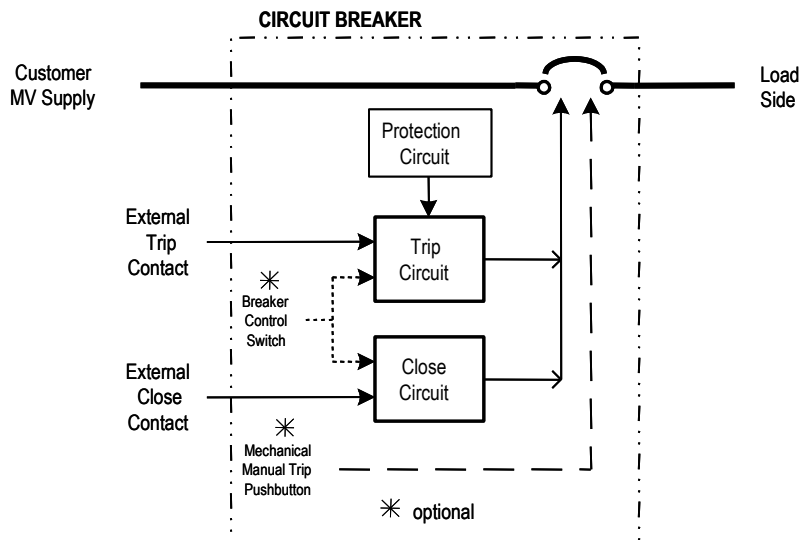
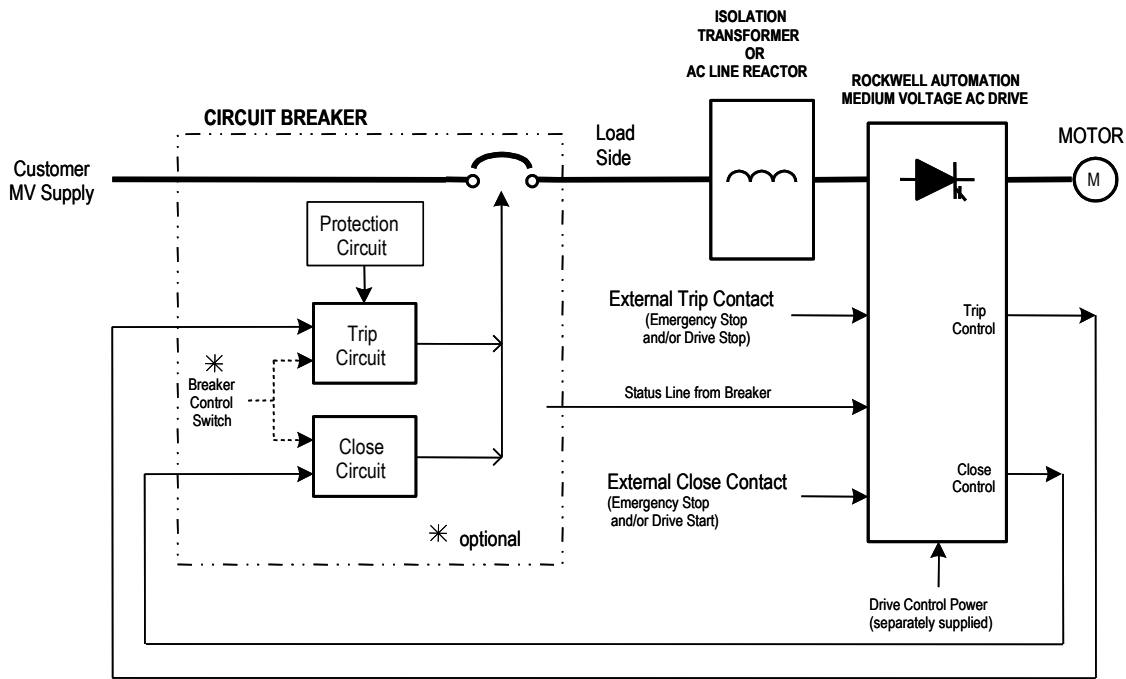

Figure 1 – Typical Circuit Breaker Control Scheme
Figure 2 – Circuit Breaker Used with Rockwell Medium Voltage AC Drive
- a) **Standard Breaker Control (no Rockwell Automation Drive):** Figure 1 shows a circuit breaker control scheme that is typically supplied by a circuit breaker manufacturer. The breaker is closed by a control switch in the electrical ‘Close Circuit’ of the breaker. The breaker may also be closed remotely by an external contact closure wired to the ‘Close Circuit’. Various defined conditions of operation of the local and remote controls are available.
- b) **Breaker Control Using A Rockwell Automation Drive:** Figure 2 shows the arrangement when used with a Rockwell Automation medium voltage AC drive. The example shown is for a breaker on the input of the drive. The control scheme has changed from that of Figure 1 to provide proper protection for the drive. The drive closes the breaker when the drive has done a diagnostic check and determines that it is healthy. In some applications the drive is programmed to close the breaker only when it is healthy **and** it is commanded to start the motor. The drive can provide this type of control because it receives its control power not from the load side of the circuit breaker but from a separate source.